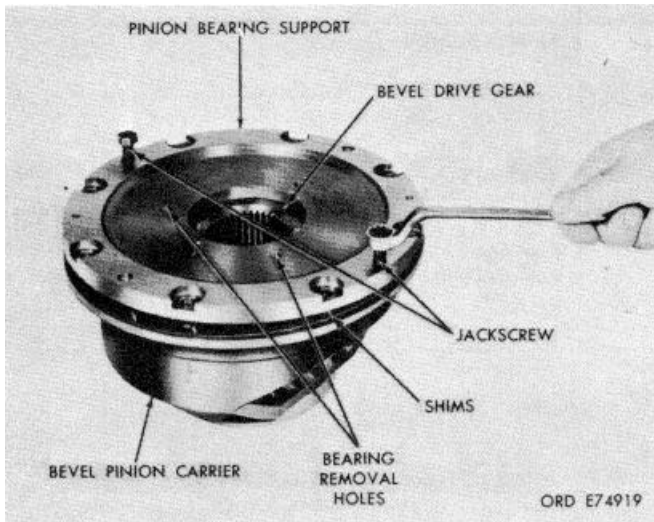
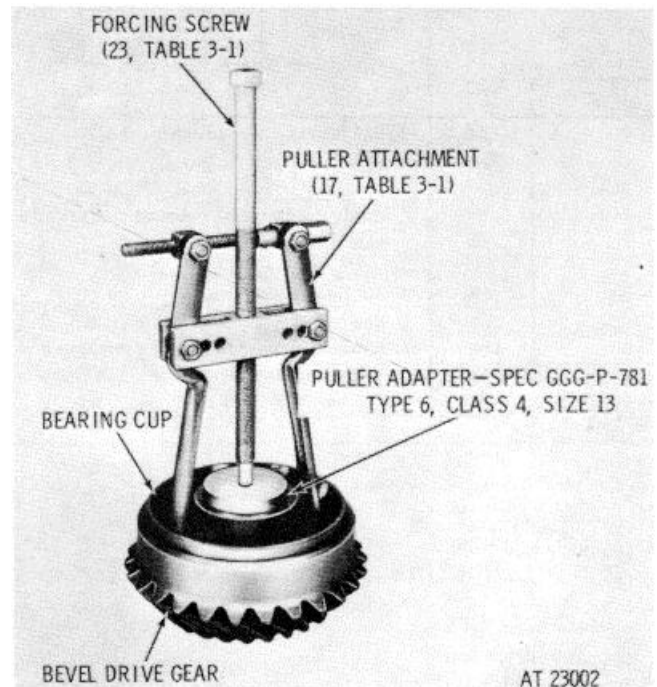

Figure 7-20. Loosening pinion bearing support.
Figure 7-21. Removing bevel drive gear front bearing outer race.
b. Using two 3/8 16 bolts as jackscrews. loosen the bevel pinion bearing support from the bevel pinion carrier (fig. 7-20).
c. Remove the bevel pinion bearing support and shims (fig. 7-20). Remove the shims from the bearing support and record the thickness of the shim pack. Tie the shims together and identify them as to location.
d. Do not remove the inner race of bearing assembly (36, FO-5) unless replacement is necessary. If the race must be removed, insert drill rod into the removal holes in pinion bearing support (38). Tap on the drill rod with a hammer to remove the race.
e. Remove bevel drive gear (44) and outer race of bearing assembly (36) from bevel pinion carrier (32).
g. If replacement is necessary, use puller attachment (17, table 3-1), forcing screw (23, table 3-1) and puller adapter (6, table 3-1) to remove the bearing race (fig. 7-21).